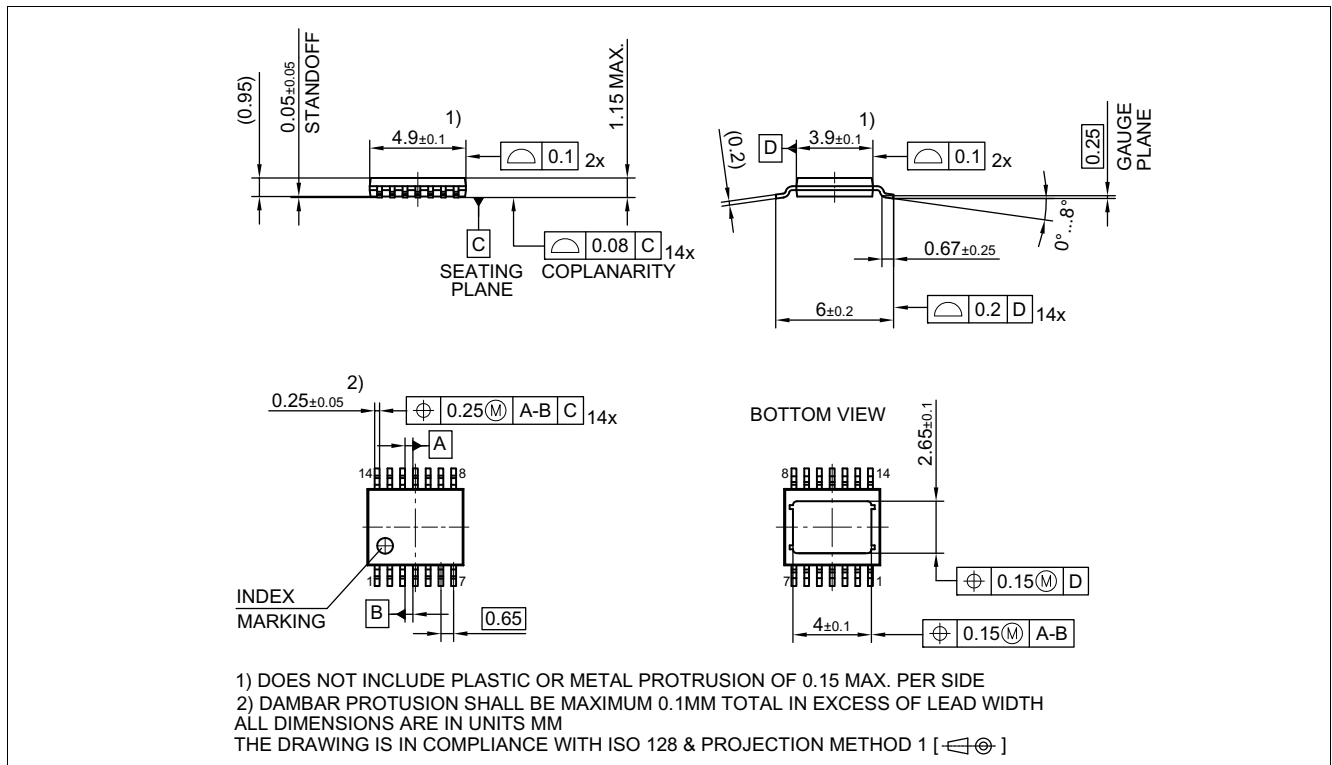
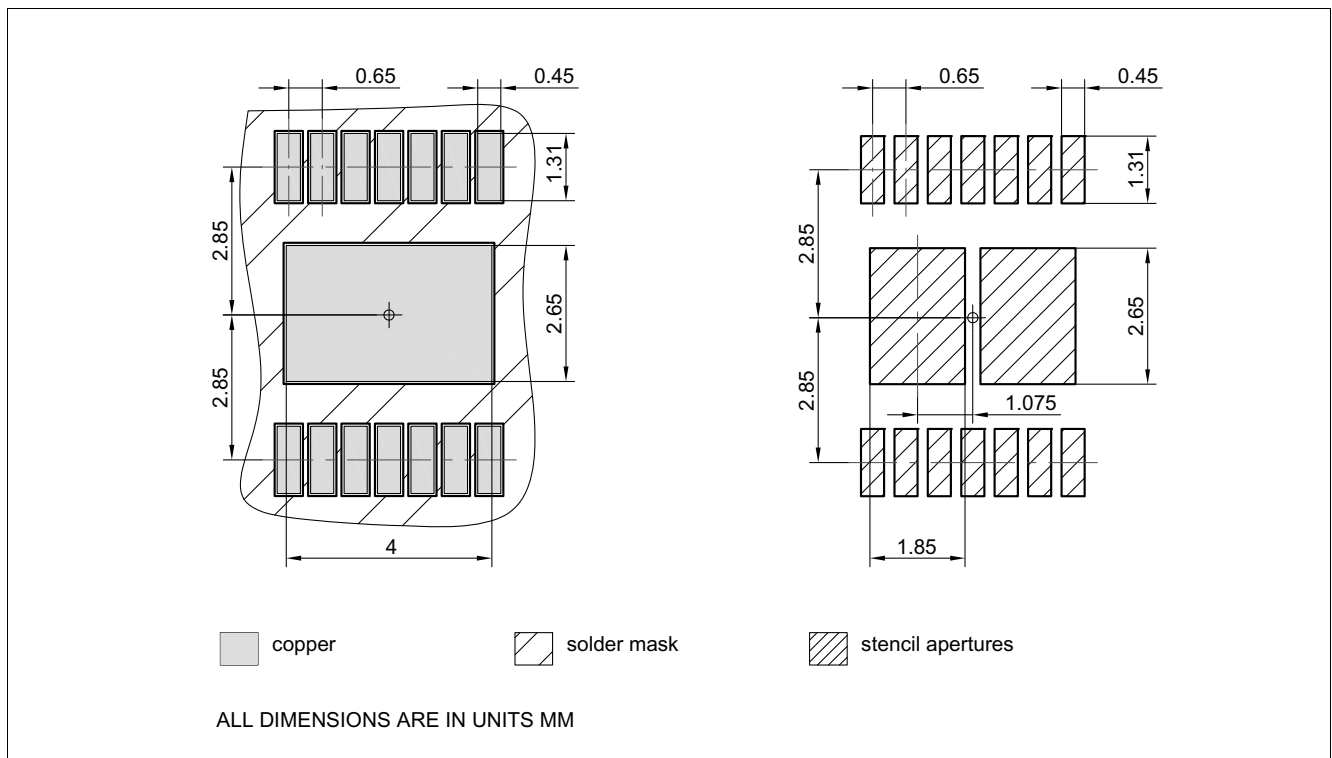

Figure 38 PG-TSDSO-14 (Thin (Slim) Dual Small Outline 14 pins) Package Outline
Figure 39 PG-TSDSO-14 (Thin (Slim) Dual Small Outline 14 pins) Package pads and stencil
1.02, 2019-02-05	<p>Figure 9, Figure 10 updated</p> <p>Page 1: updated (figure product)</p> <p>Table 22 updated (punctuation)</p> <p>Chapter 9.3, Chapter 9.3.1 updated (typo)</p> <p>Page 1: updated (Package PG-TSDSO-14-22 → Package PG-TSDSO-14)</p> <p>Figure 38 updated (PG-TSDSO-14-22 (Thin (Slim) Dual Small Outline 14 pins) Package Outline → PG-TSDSO-14 (Thin (Slim) Dual Small Outline 14 pins) Package Outline)</p> <p>Figure 39 updated (PG-TSDSO-14-22 (Thin (Slim) Dual Small Outline 14 pins) Package pads and stencil → PG-TSDSO-14 (Thin (Slim) Dual Small Outline 14 pins) Package pads and stencil)</p> <p>Table 1 updated (Parameter: Minimum Overvoltage protection ($T_J = 25\text{ °C}$) → Minimum Overvoltage protection ($T_J \geq 25\text{ °C}$))</p> <p>Table 1 updated (corrected typo in table Product Summary: $I_{\text{VS(OFF)}}$: 1 → 0.4 μA)</p> <p>Table 1 updated (Symbol: $I_{\text{VS(OFF)}} \rightarrow I_{\text{VS(OFF)_85}}$)</p> <p>P_6.5.22.1 updated (Symbol: $I_{\text{VS(OFF)}} \rightarrow I_{\text{VS(OFF)_85}}$)</p> <p>P_6.5.22.2 updated (Symbol: $I_{\text{VS(OFF)}} \rightarrow I_{\text{VS(OFF)_150}}$)</p>